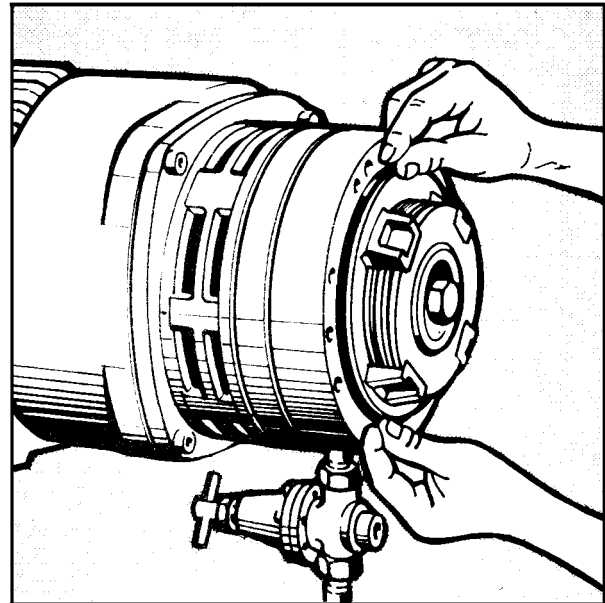

Figure 3-10
1. Lubricate O-ring #30 with a light coating of Vaseline or equivalent and place it on the piston assembly shoulder (See Figure 3-10).